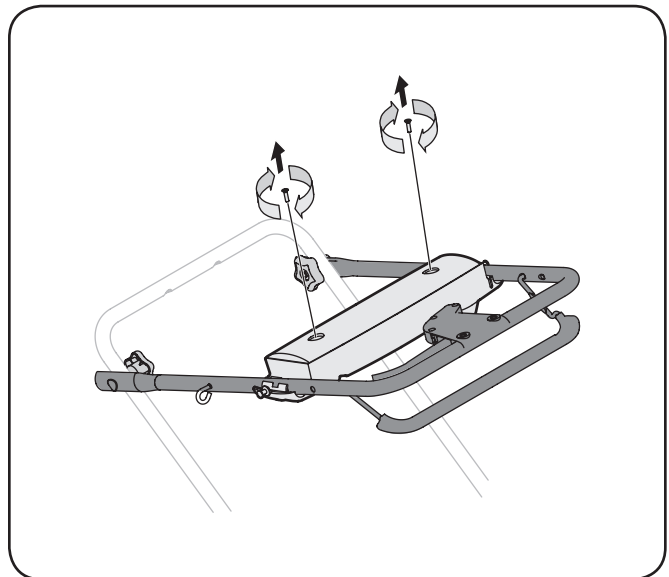

Figure 7-2
1. Loosen star knobs securing upper and lower handles and carefully fold the upper handle down toward the lower handle as shown in Figure 7-2.
- Remove the two screws securing battery cover to battery housing and place them to the side. See Figure 7-2.
1. Open the battery cover as described in Replacing Battery. See Figure 7-2.